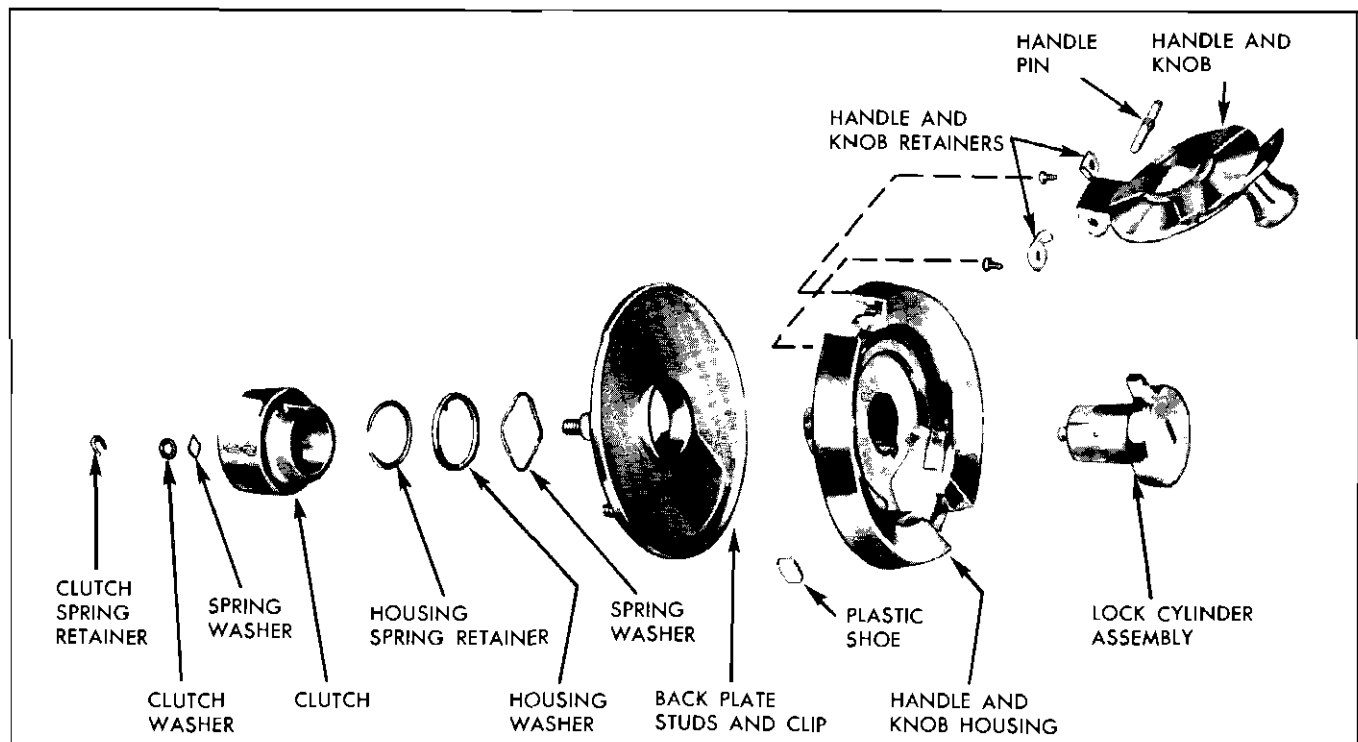

Fig. 4-18 Tail Gate Outside Handle Assembly
3. Using snap ring pliers or other suitable tool remove housing spring retainer; then remove housing washer and spring washer, and remove back plate from handle and knob housing (Fig. 4-18).
NOTE: Plastic shoes can be removed from handle and knob housing by carefully prying shoes from housing (Fig. 4-18).
screws securing handle and knob retainers; then disengage handle and knob including handle pin from housing (Fig. 4-18).
2. Using an awl or other suitable tool, remove clutch spring retainer; then remove clutch washer and spring washer and remove clutch and lock cylinder assembly from unit (Fig. 4-18).